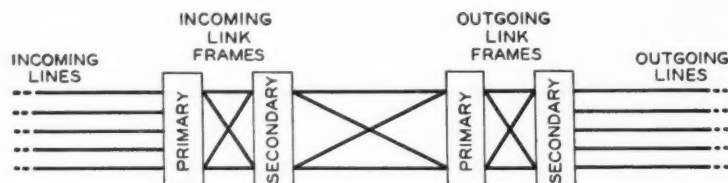

Fig. 1—A crossbar switching train consists of two frames with their connecting links
**I**N CROSSBAR switching systems, a train of two groups of switching frames is employed to interconnect incoming and outgoing lines of various sorts. Omitting all control equipment, the general arrangement is as indicated in Figure 1, where the term "lines" is used in its broadest sense to include subscriber lines, trunks to other central offices, or toll lines. In a local central office there are two trains like Figure 1. For one of them the incoming lines are from subscribers' stations, and the outgoing lines are trunks to other offices, or to other switching groups. For the other train, the incoming lines are trunks from other offices, and the outgoing lines are to subscribers' telephones. Interoffice trunks are connected to office-link frames for the outgoing train and to incoming-link frames for the incoming train and thus never appear on both ends of the same train.